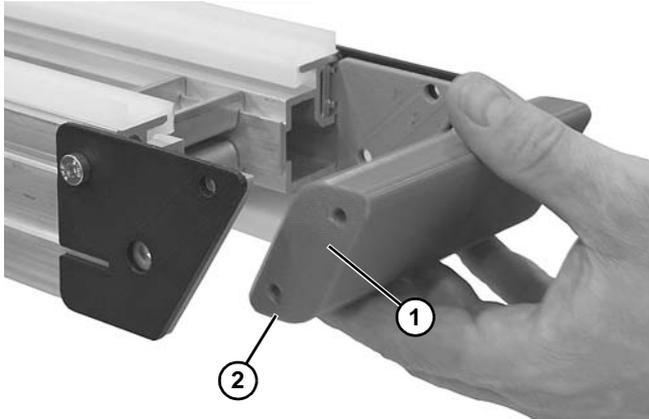

Figure 64
2. Remove bar (Figure 64, item 1), flip 180°, and re-install bar.
| Bar may be flipped 180° to use second wear surface (Figure 64, item 2). |